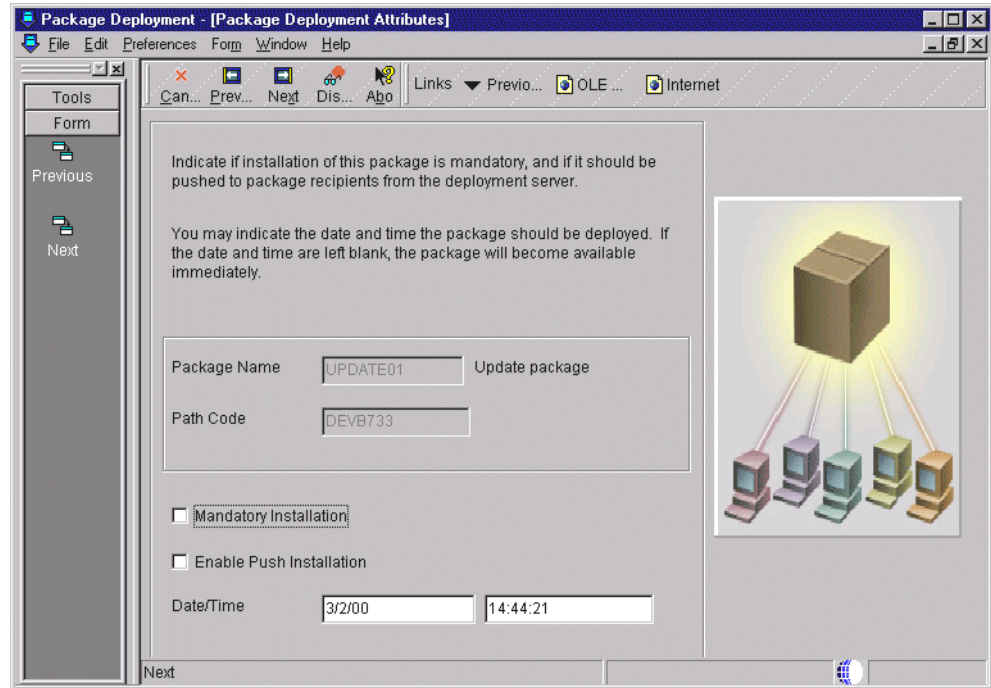

Figure 165. Package Deployment Attributes
5. Click **Next**. The Package Deployment Attributes form appears (Figure 165).